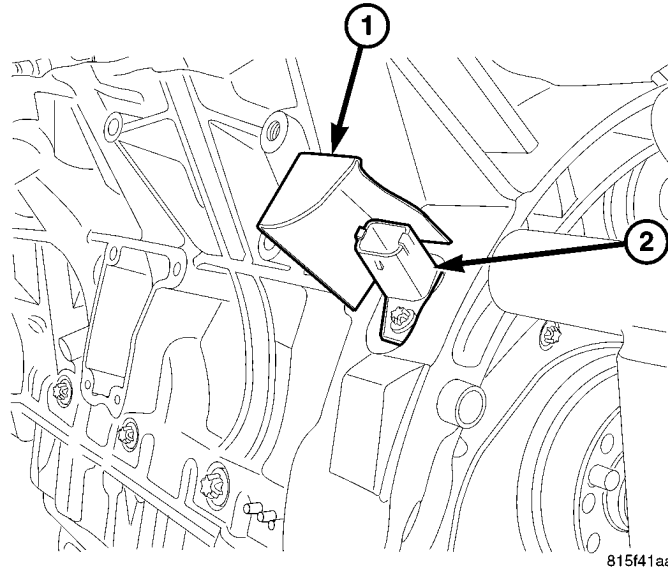

Fig. 1 CRANKSHAFT POSITION SENSOR
3. Remove the Crankshaft Position Sensor and heat shield using the service information available in DealerCONNECT > TechCONNECT > 14 - Fuel System > Fuel Injection - Diesel > Sensor-Crankshaft Position > Removal (Fig. 1).